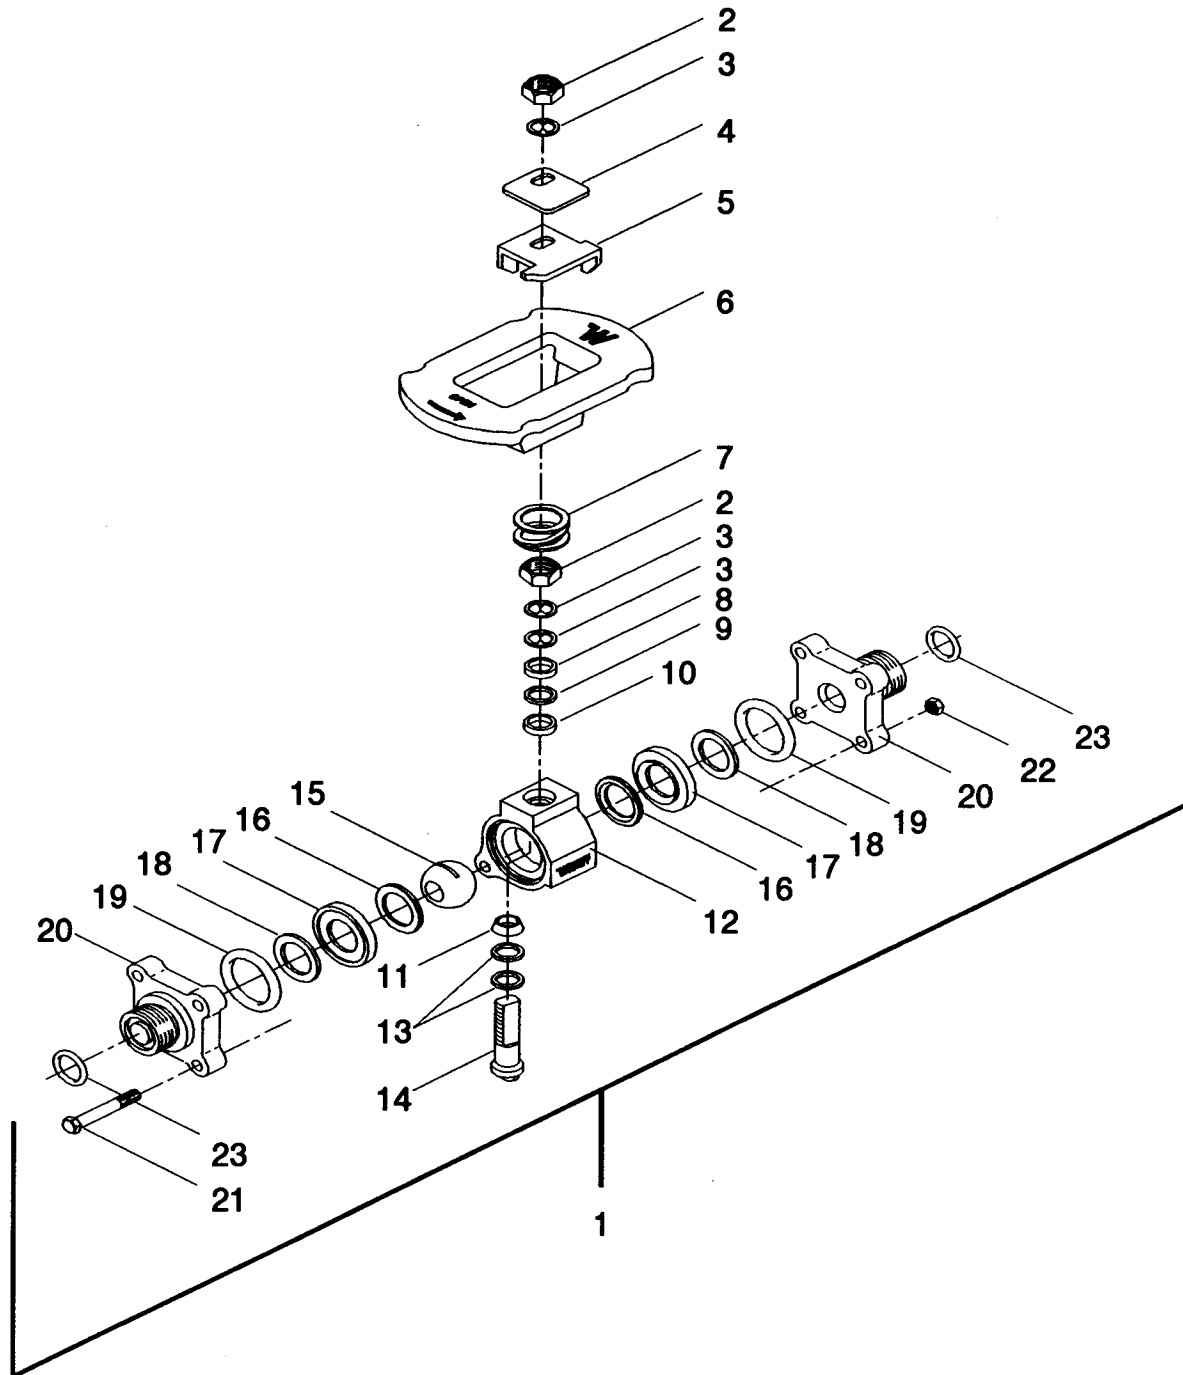

Figure 5-3. Supply Valve (Item 1)
5-4. Low Pressure (LP) Supply Valve (DACC) or Diver Air Supply Valve (VTA). See Figure 5-3.**This task covers: Repair****INITIAL SETUP****Tools**